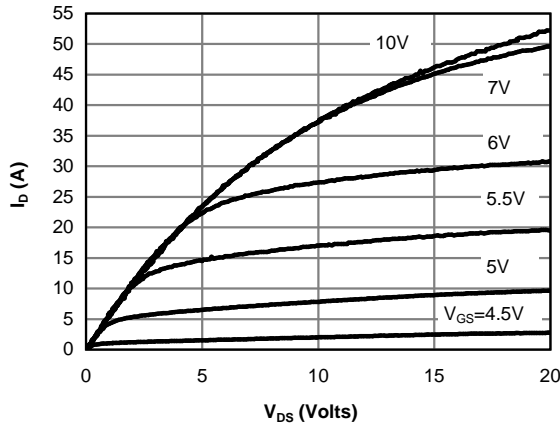

Figure 1: On-Region Characteristics @ 25°C
E. The static characteristics in Figures 1 to 6 are obtained using <300  $\mu$ s pulses, duty cycle 0.5% max.